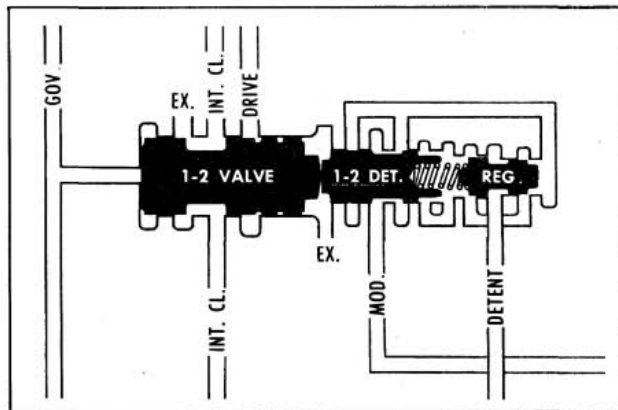

Fig. 6-6 1-2 Shift Valve
**1-2 SHIFT VALVE (Fig. 6-6)**
**1-2 REGULATOR VALVE (Fig. 6-6)**
**1-2 DETENT VALVE (Fig. 6-6)**